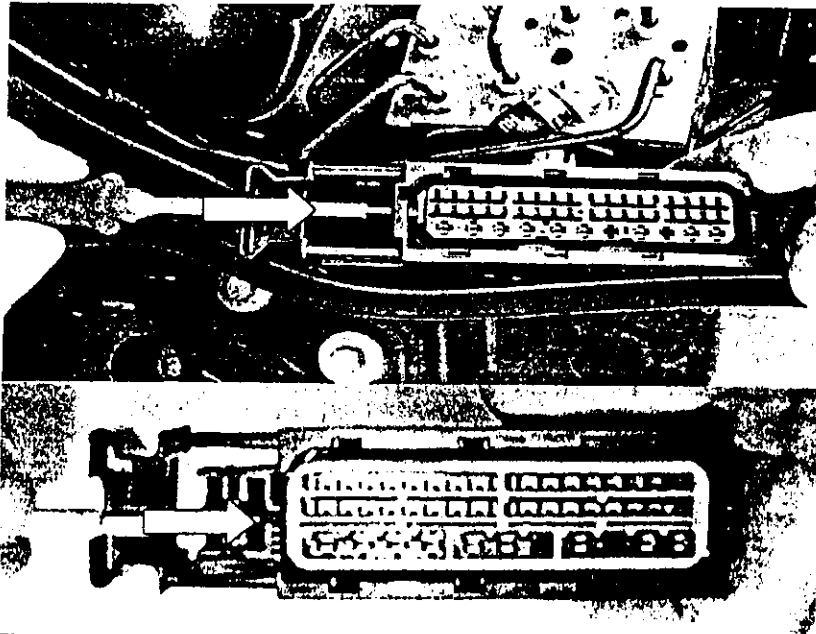

Figure 9: Closing the secondary lock
13. Close the gray contact strip secondary lock of the SBC connector housing. To do this, slide the gray secondary lock in the direction indicated by the arrow using a small screwdriver (Figure 9).